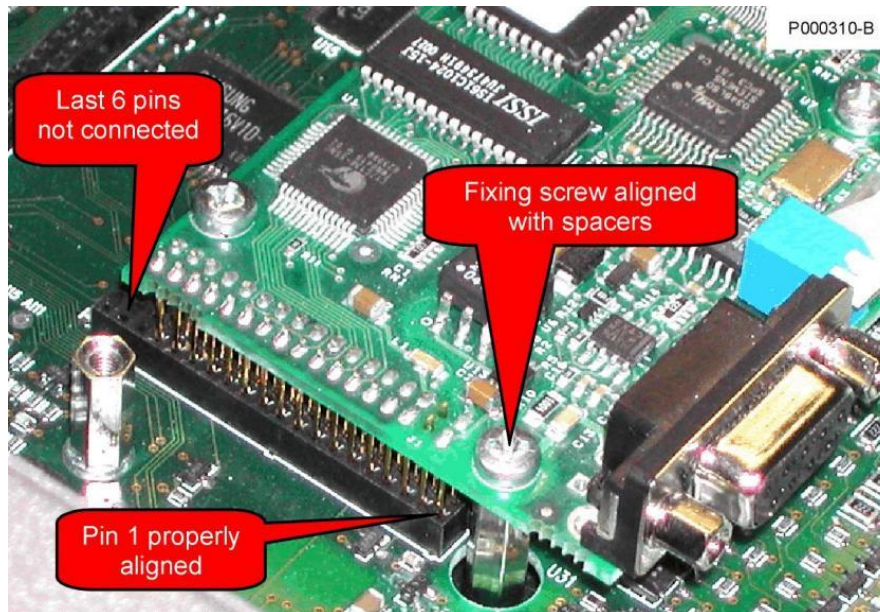
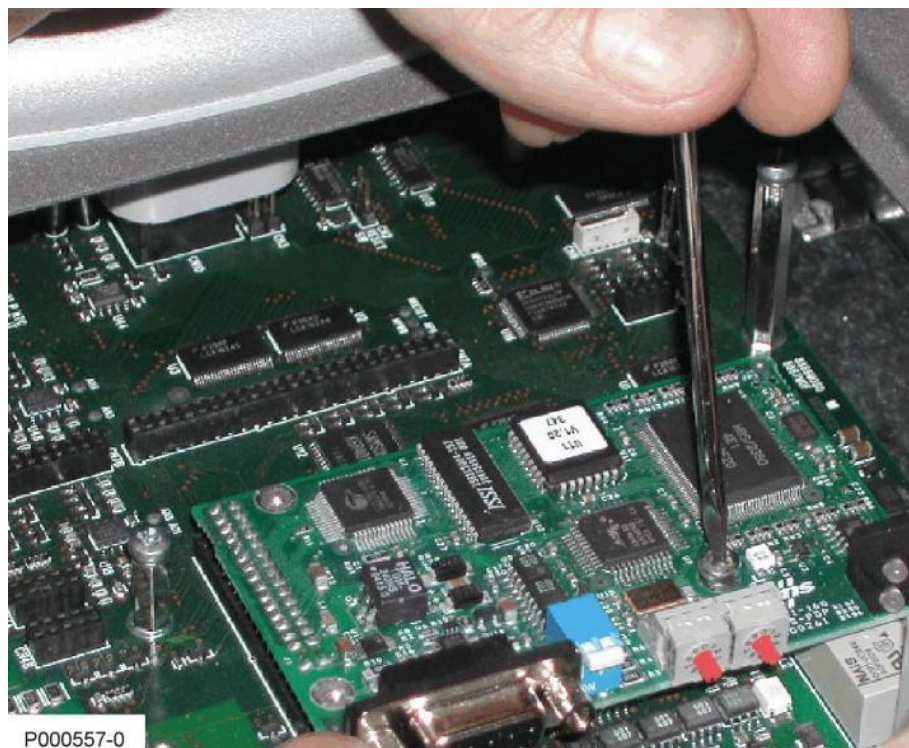

Figure 89: Checking contacts in the slot B
Figure 90: Fastening the communications board to slot B
- 4) Insert the communications board in the slot B; make sure that the connector bar in the board is inserted in the front part of the slot only, and that the last 6 pins are not connected. If installation is correct, the three fastening holes will match with the housings of the fastening screws for the fixing spacers. Tighten the board fixing screws as shown in Figure 89 and Figure 90.